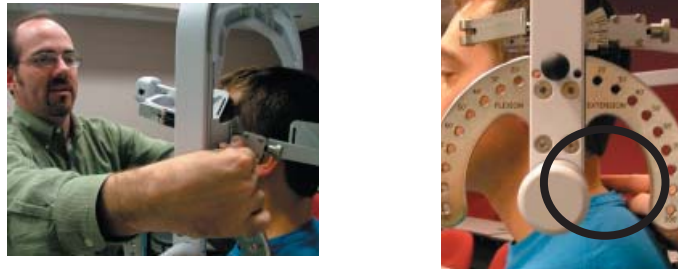

Figure 6-75. Final Adjustments and Locating C5/C6
Step 12. Make fine adjustments to the seat to line up C5/C6 of the patient's spine with the pivot point of the halo (Figure 6-75).